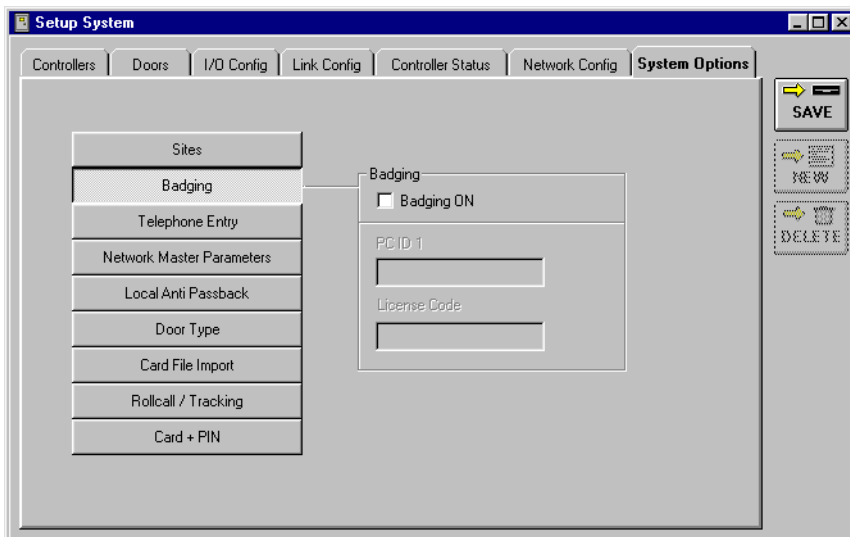

Figure 15: System Options Tab
2. Click the **System Options** tab. The System Options window appears (see Figure 15).
3. Click the  button to bring up the badging field (see Figure 15).
4. If your application does not use badging, verify the “Badging ON” check box inside the “Badging” field is blank (see Figure 15 on page 13 – this is the default value).